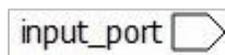
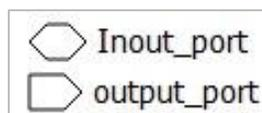

Figure 2.65. Input Port
Figure 2.66. Output Port and Inout Port
- f. Click **OK**. The port appears. Figure 2.65 shows an input port, port name of which is on the left. Figure 2.66 shows an output port and an inout port, port names of which are on the right.